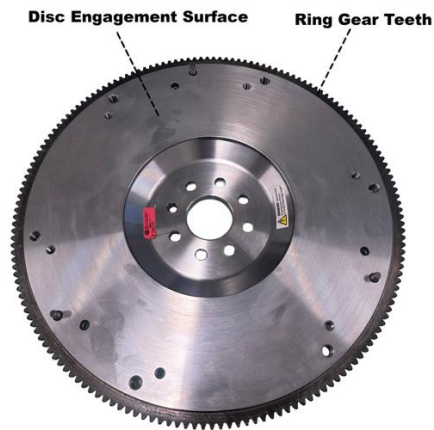

Figure 3
3. Inspect flywheel for chipped teeth on the ring gear and be certain the flywheel/disc engagement surface is clean, flat, and free of oil and/or grease. Be certain the pilot bearing is in place and is clean and free of nicks and burrs. If damaged, replace the pilot bearing. Test fit the pilot tool to see how far the tool engages the pilot bearing. See Figure 3.